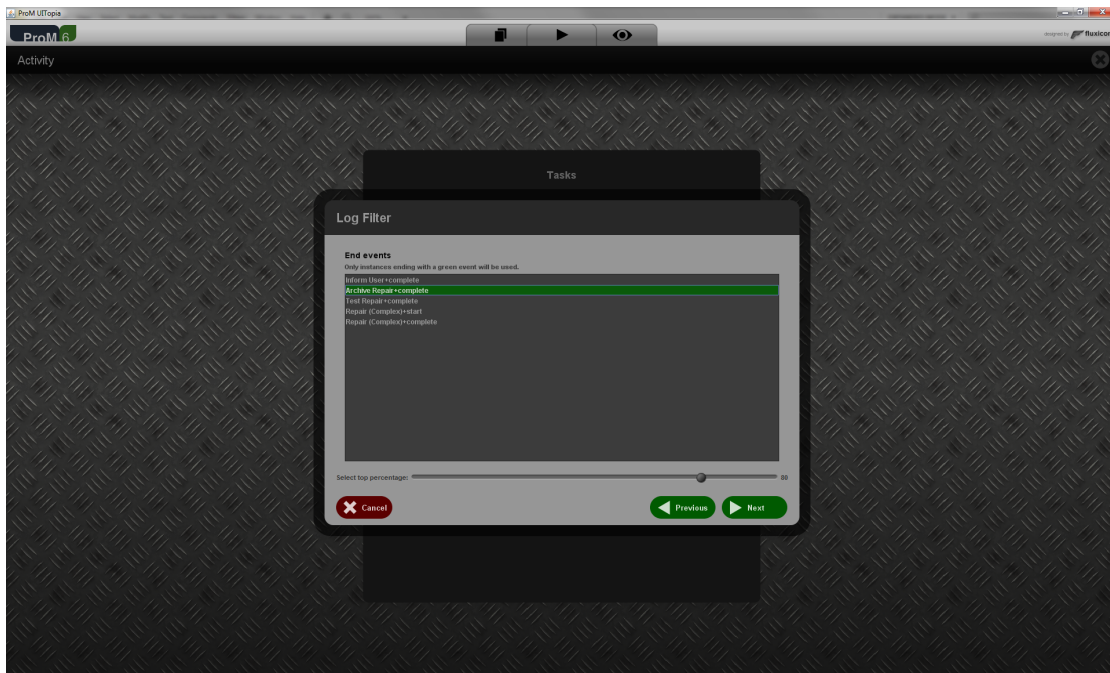

Figure 7: Selecting end events.
5. The third filter is the end event filter, which filters (see Figure 7) the log in such a way that only the traces (or cases) that end with the indicated tasks are kept. The slider at the bottom allows us to select the most frequent end events. Figure 7 shows that over 80% of the traces end with “Archive repair+complete”. If you want to select more end events, you can either select them manually, or use the slider. When done, select the “Next” button.